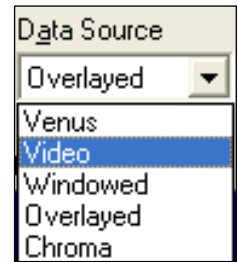

Figure 9: V-Max™ 4 Data Source Options
8. Click the **drop-down arrow** next to **Data Source** and select **Video** to play video content on the display. Refer to **Figure 9**.
11. Click the **drop-down arrow** next to **Data Source** and then click **Overlayered** to go to **Overlay Mode**, or press **Alt-A** to move the cursor to the **Data Source** text box and use the **up** and **down arrows** to select **Overlayered**. Refer to **Figure 9**.